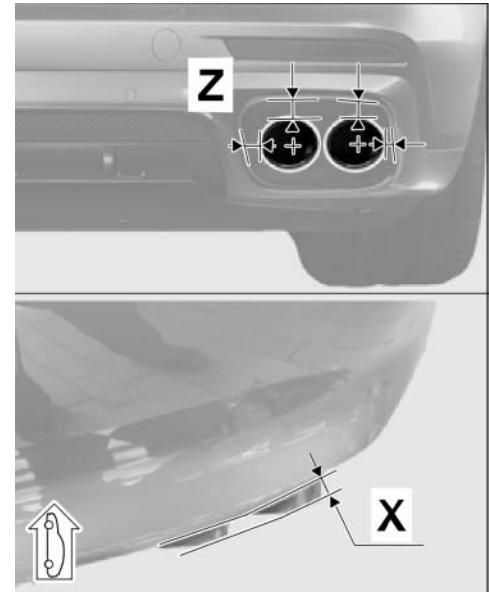

Figure 10
- 3.2 Check that the gap = "dimension Z" between the new sports tailpipes and exhaust system cover (rear bumper – left and right side of vehicle ⇒ *Figure 10-Z-*) is symmetrically constant.
- 3.3 Check that the sports tailpipes have equal projection = "dimension X" with respect to the rear body panel (left and right side of vehicle ⇒ *Figure 10-X-*). Re-align sports tailpipes if necessary.